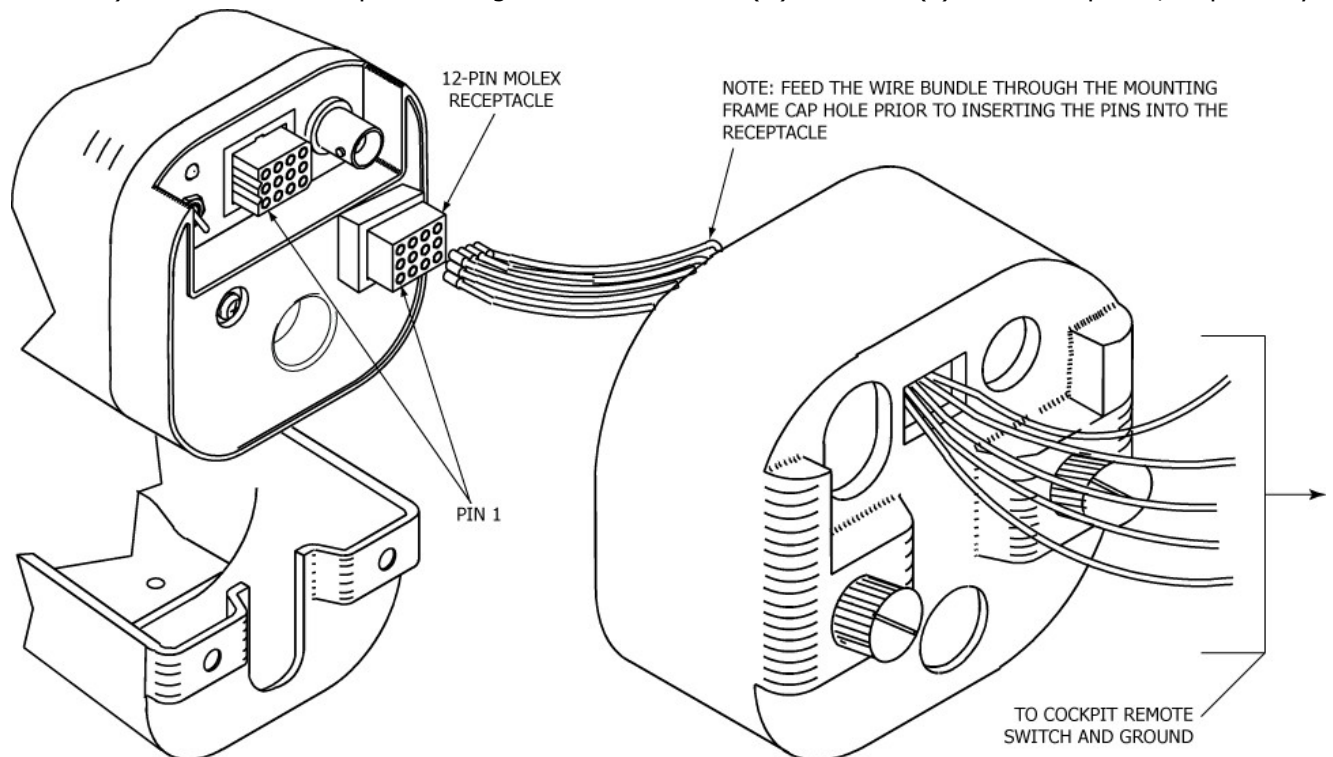

Figure 21 Remote Switch Harness Arrangement at ELT End
- 1) Feed the harness wires on the ELT end through the mounting frame cap assembly (452-5052). See Figure 21.
- 1) Insert the wiring pins in the 151-5009 Molex 9-pin cockpit remote switch plug. See Figure 21 Remote Switch Harness Wiring Diagram on page 55.